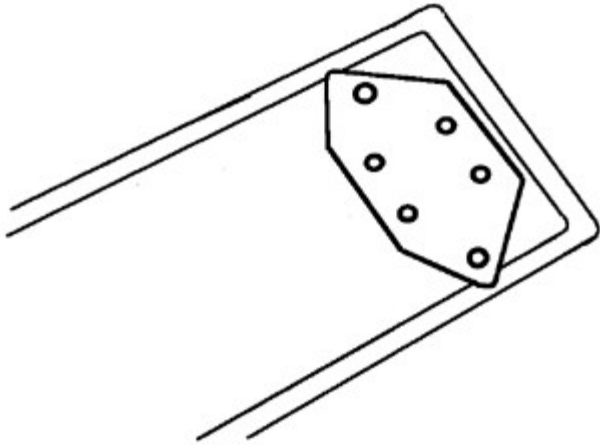

Figure 4
**Installing handset (HS)**
3. Place reinforcing plate on back of carpeting (Figure 4).